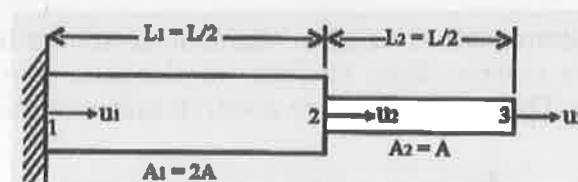

Figure 7
16. (a) Find the natural frequencies of longitudinal vibration of the constrained stepped bar shown in figure 7. Also find the mode shapes.